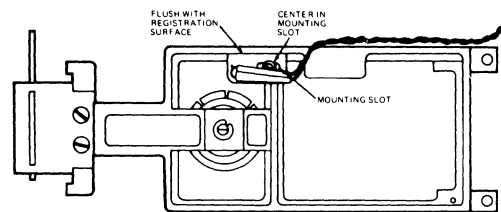

FIGURE 8. INDEX DETECTOR ADJUSTMENT
- a. Position the index detector assembly flush with the registration surface on the hub frame. Reference figure 8.
- b. Position the detector assembly in the center of its mounting slot. Tighten the mounting screw, Reference figure 8.